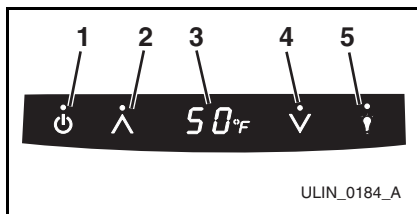

Figure 4
The electronic control with digital display (**Figure 4**) is configured to show a single temperature continuously. This set-point temperature is a base number used by the controller to maintain the temperature zones in your unit. The factory default set-point temperature is 50°F. This set-point temperature is used as a gauge if further temperature adjustments are required.
A DISPLAY OFF mode is available through the control panel. This mode allows you to control whether the display (**Figure 4, 3**) will be ON or OFF whenever the door is closed. The icon touch sequence that follows will switch between both modes:
1. Touch and hold the WARMER icon (**Figure 4, 2**), and within five seconds press the POWER icon (**Figure 4, 1**) three times.
U-Line products supplied for 110 VAC operation have temperatures displayed in a default Fahrenheit (°F) configuration (**Figure 4, 3**). Models supplied for 220 VAC operation have temperatures displayed in a default Celsius (°C) configuration.
The display can easily be adjusted for either type of temperature display. Press and hold the LIGHT icon (**Figure 4, 5**) and within five seconds press the COOLER icon (**Figure 4, 4**) three times to change the display as desired.
1. Press and hold the WARMER icon (**Figure 4, 2**) for approximately five seconds and release when the °F symbol in the display (**Figure 4, 3**) begins to flash.
2. The display (**Figure 4, 3**) will scroll through three individual readings at two second intervals per temperature.